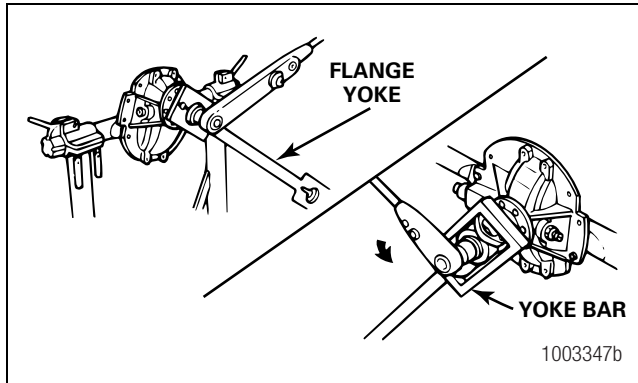

Figure 3.22
1. Fasten a flange bar to the input yoke or flange. When the nut is removed, the bar will hold the drive pinion in position. Figure 3.22.
2. Remove the nut and washer, if equipped, from the drive pinion. Figure 3.22.